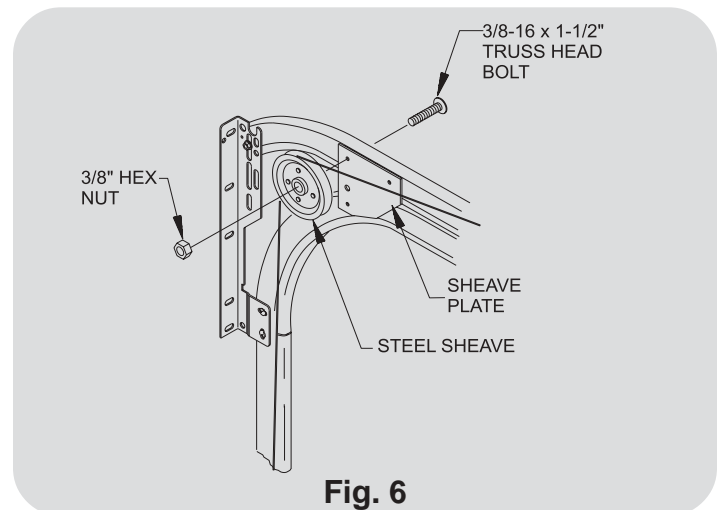

Fig. 6
Using the appropriate hole in the sheave plate as a guide, drill a 13/32" dia. hole through the sheave plate and track (see **Fig. 6**). Place a 3/8-16 x 1-1/2" truss head bolt through the drilled hole and slide a steel sheave over the end of the bolt as shown. Secure the sheave using (1) 3/8" hex nut. Repeat for the other side, then loop the counterbalance cables over each sheave.